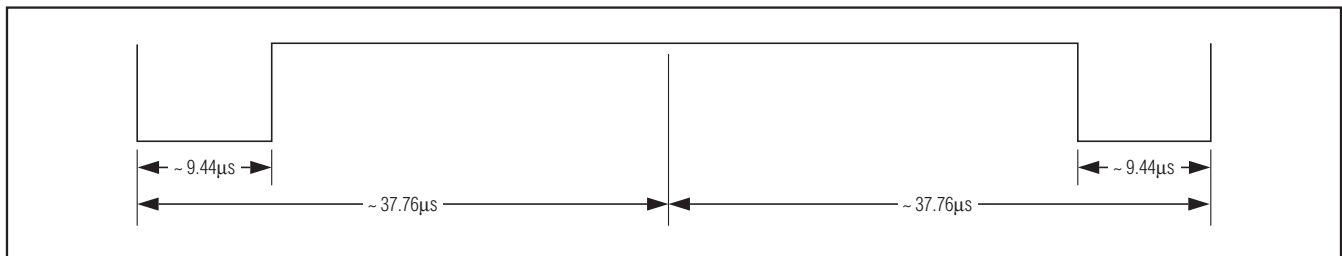
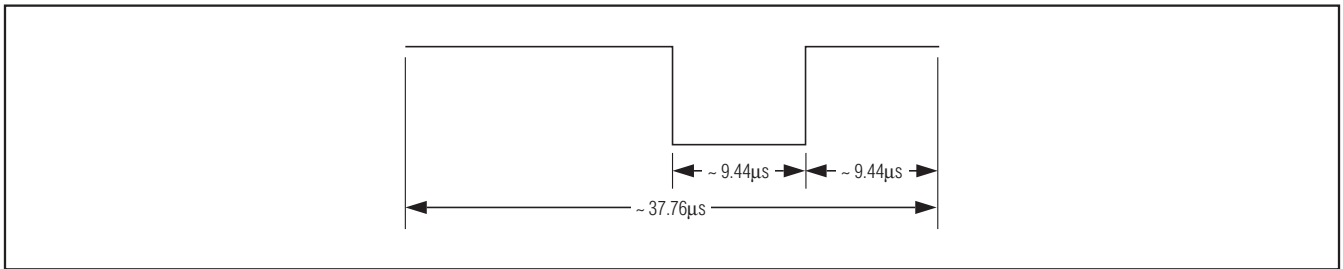

Figure 9. Downlink SOF for "1 Out of 256" Coding (Carrier Not Shown)
Figure 11. Downlink EOF (Identical for Both Coding Schemes, Carrier Not Shown)
75.52 μ s conveys the value of the 2 bits. A byte is transmitted as a concatenation of four 2-bit transmissions, with the least significant 2 bits of the byte being transmitted first. The transmission of the SOF pattern takes the same time as transmitting 2 bits in Scheme B. The SOF pattern has two modulation notches, making it distinct from any 2-bit pattern. The position of the second notch tells whether the frame uses the “1 out of 256” or “1 out of 4” coding scheme (Figures 9 and 10, respectively). The transmission of the EOF pattern takes 37.76 μ s; the EOF is the same for both coding schemes and has one modulation notch (Figure 11).